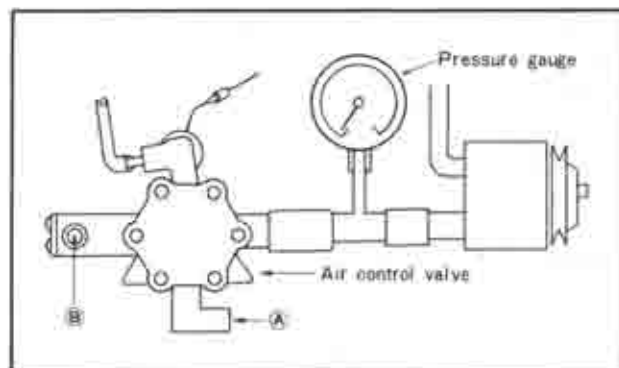

Fig. 1A-45 Checking of air control valve
2. Attach the pressure gauge as in Fig. 1A-45.
3. Remove the air hoses from outlets (A) and (B).
4. Start the engine and keep it running at idle speed. Check to see that the pressure gauge reads $0.026 \sim 0.053 \text{ kg/cm}^2$ ($0.37 \sim 0.75 \text{ lb/in}^2$) and that there is no air leak from outlets (A) and (B) of the air control valve.
5. Make sure that the pressure gauge reads $0.14 \sim 0.2 \text{ kg/cm}^2$ ($2.0 \sim 2.8 \text{ lb/in}^2$) when the engine speed is 3,500 rpm and that there is air leak from outlets (A) and (B).
6. Remove the solenoid terminal. Make sure that the pressure gauge reads $0 \sim 0.053 \text{ kg/cm}^2$ ($0 \sim 0.75 \text{ lb/in}^2$) and that air flows from outlet (A) of the air control valve and air does not flow from outlet (B).